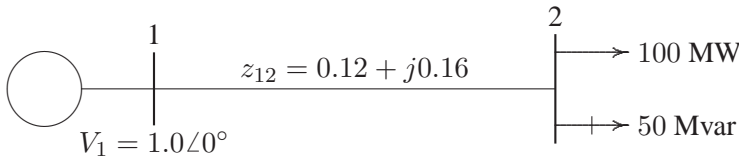

FIGURE 59
6.11. In the two-bus system shown in Figure 59, bus 1 is a slack bus with $V_1 = 1.0\angle 0^\circ$ pu. A load of 100 MW and 50 Mvar is taken from bus 2. The line impedance is $z_{12} = 0.12 + j0.16$ pu on a base of 100 MVA. Using Newton-Raphson method, obtain the voltage magnitude and phase angle of bus 2. Start with an initial estimate of $|V_2|^{(0)} = 1.0$ pu and $\delta_2^{(0)} = 0^\circ$. Perform two iterations.